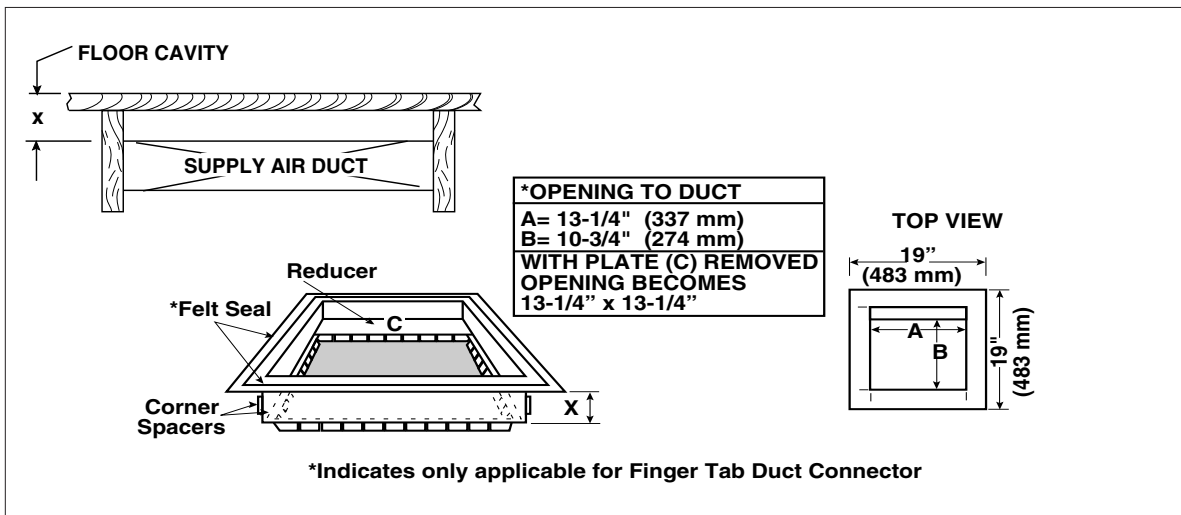

Figure 5. Duct Connector Selection (Non-Platinum)
- Determine depth of floor cavity from surface of floor to top of supply air duct (see Figure 5).
- Select appropriate model from Table 4 which matches X-dimension of floor cavity. To maximize air delivery, remove reducer (C in Figure 5) to obtain largest open area that will fit duct/floor construction.
2. Attach frame assembly with four fasteners (provided or equivalent) into pre-punched holes on top of furnace (see Figure 5).